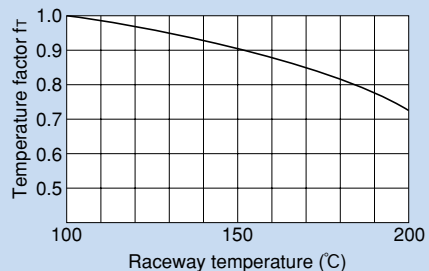

Fig. 3 Temperature Factor (f_T)
- f_T : Temperature factor (see Fig. 3 on page D-7)
If the temperature of the atmosphere surrounding the operating LM Stroke model ST exceeds 100°C , take into account the adverse effect of the high temperature and multiply the basic load ratings by the temperature factor indicated in Fig. 3.